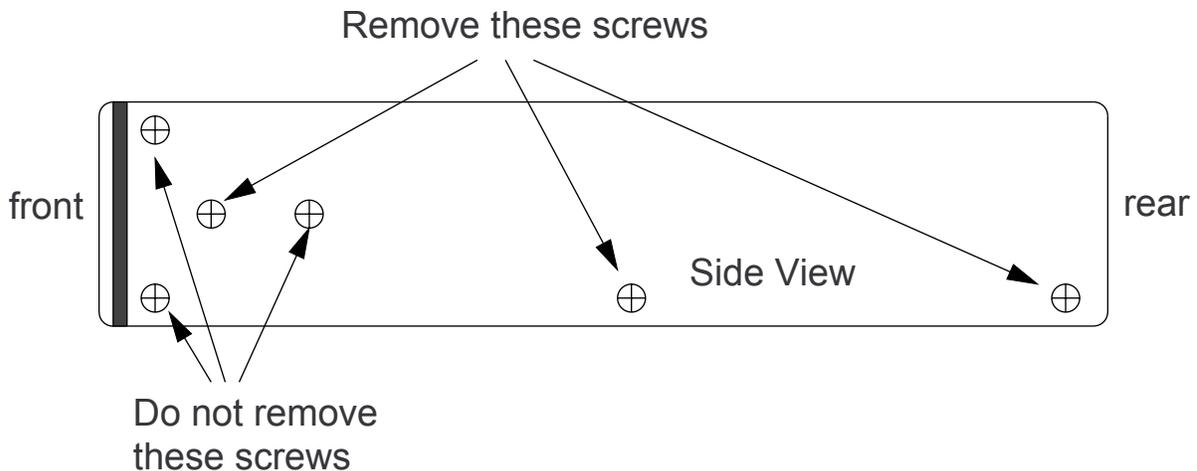

Figure 2. Cover Removal Screw Location Side View
Note: Refer to Figures 2, 3 and 4 for the following procedures.
1.1 Use a phillips-head screwdriver to remove seven screws (3) from the back and sides of the chassis cover (1) and the two longer screws that are located in the center behind the rack-mount brackets. See Figure 2.
2.2 Secure the cover to the chassis by tightening seven screws (3) and the two longer screws located in the center behind the rack-mount brackets with a phillips-head screwdriver. See Figure 2.